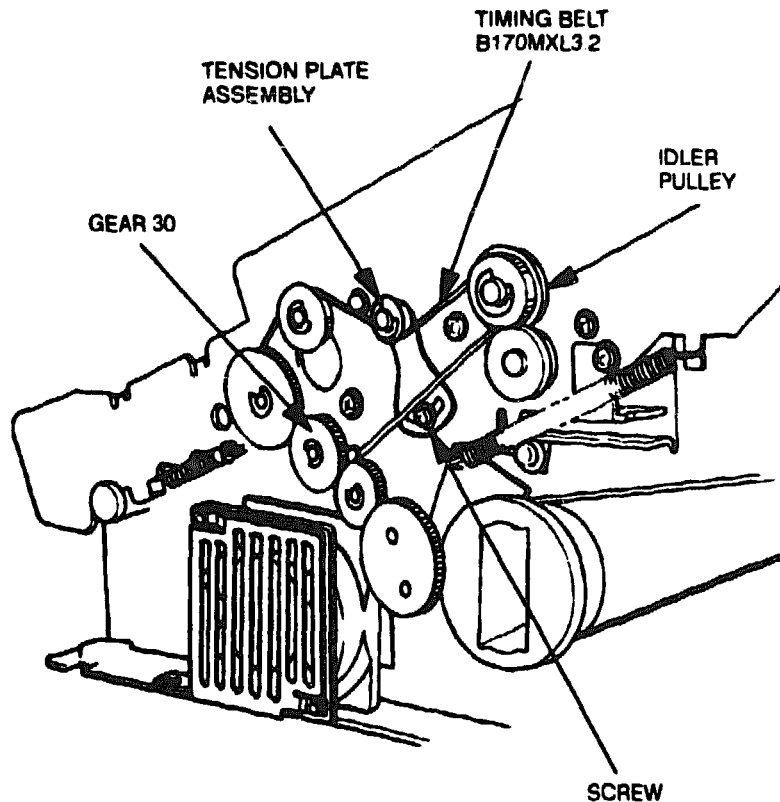

Figure 6-44 Tension Plate, Gear 30, and Idler Pulley
2. Loosen the screw shown in Figure 6-44 securing the tension plate assembly to the upper frame (R).
3. Using a flat-tip screwdriver, remove the E retaining rings on the gear 30 and idler pulley (see Figure 6-44).